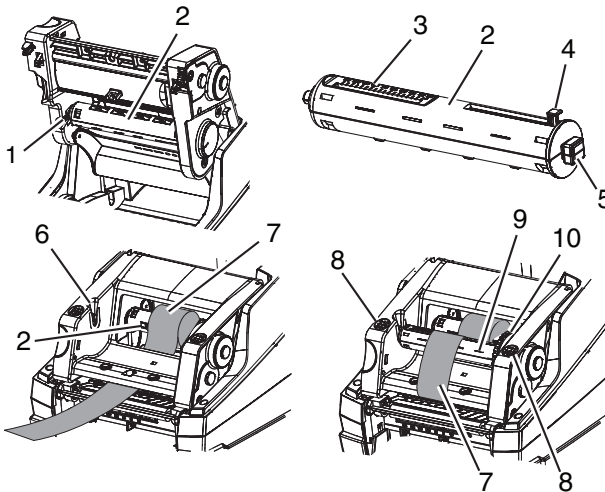

Figure 5, Loading the Ribbon
3. Lift the ribbon carrier into the loading position (**Figure 5**).
4. Push the old ribbon spindle (**Figure 5, 2**) slightly to the right to release tension on the spindle and pull the left side of the spindle (**Figure 5, 1**) toward you. Discard the old ribbon.
6. Bring the ribbon end forward and over the thermal printhead (**Figure 5, 7**) to the ribbon take-up spindle (**Figure 5, 9**).
8. Turn the adjustment wheel (**Figure 5, 5**) a few complete revolutions, to ensure that the ribbon will not pull out from under the ribbon hold-down tab. The ribbon should now be snug and smoothed out against the printhead.
8. Apply thumb pressure to the close points (**Figure 5, 8**) on both sides of the ribbon carrier until it latches securely in place. Once the ribbon carrier is latched in place, raise the front panel and snap it into the closed position.